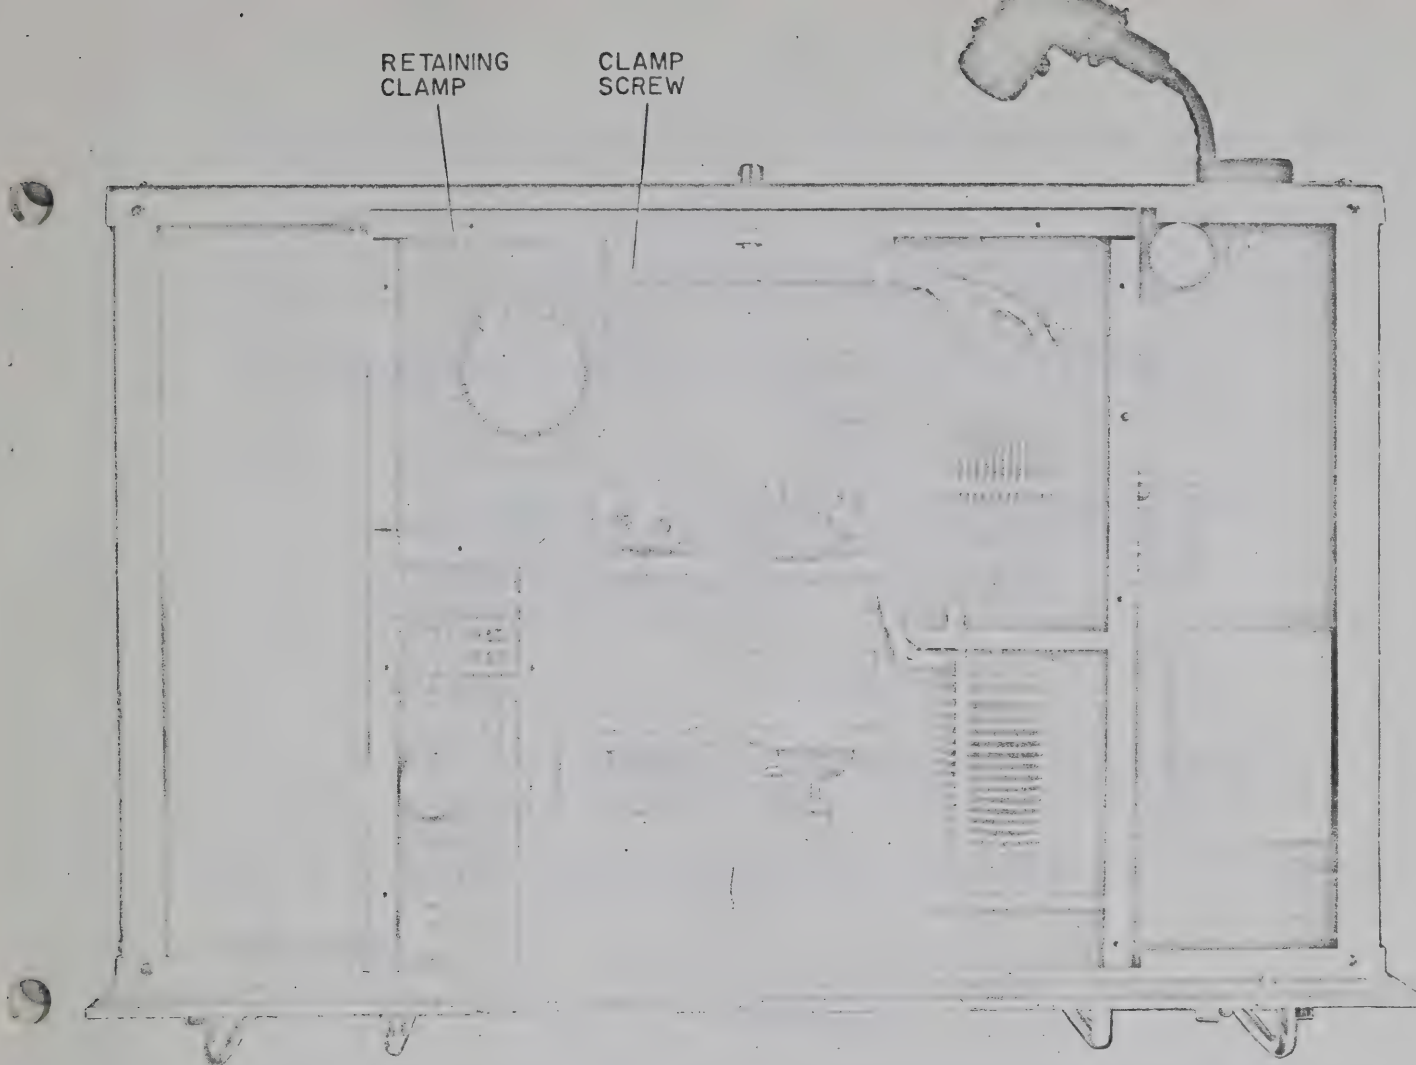

Figure 4-10. The R-f Amplifier Drawer, Top View
- c. Loosen screw on retaining clamp (see figure 4-10).